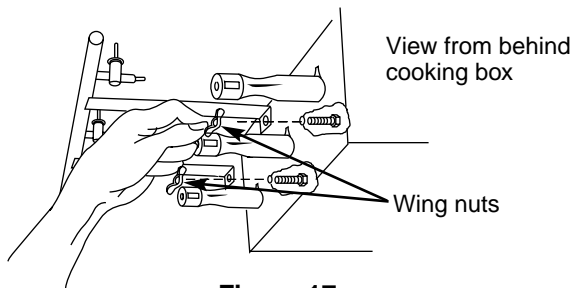

Figure 17
- e) Remove the manifold bracket and unscrew the two wing nuts that hold the manifold to the cooking box. Pull the manifold and valve assembly out of the burners and carefully set it down. Figure 17.